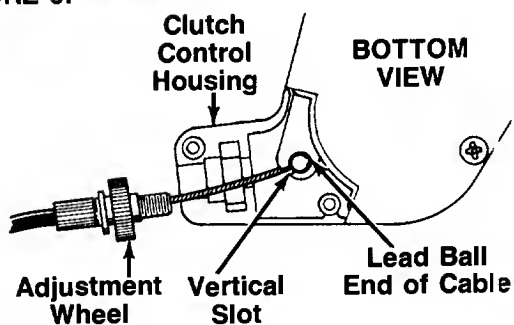

FIGURE 6.
1. Place the lead ball end of the cable into the fitting provided in the end of the clutch control lever. Slip the braided wire into the vertical slot as shown in figure 6.
3. Make certain the adjustment wheel is threaded onto the cable as far as possible as shown in figure 6. Place the adjustment wheel into the clutch control housing.